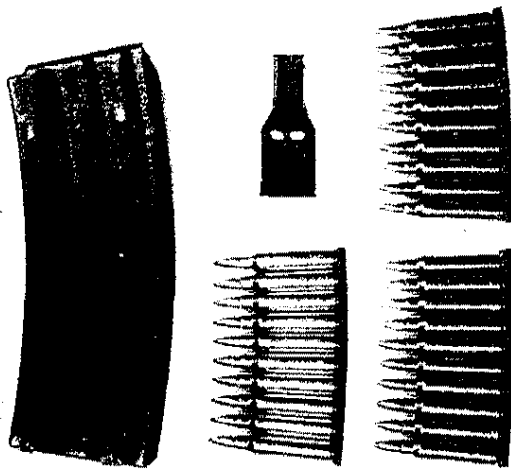
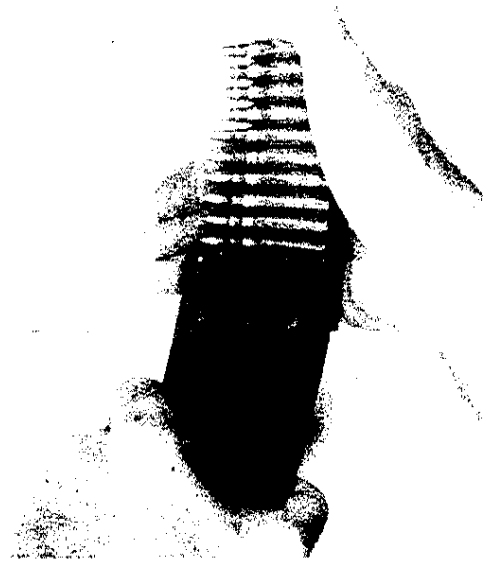
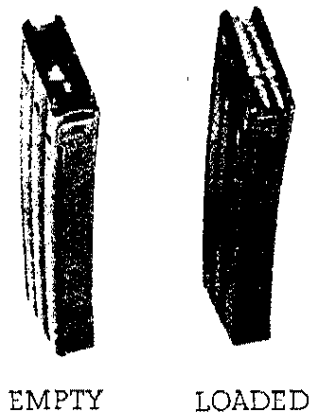

FIGURE 11. 10 ROUND CLIPS AND LOADING ADAPTER
FIGURE 12. LOADING MAGAZINE
FIGURE 13. 30 ROUND MAGAZINES
b. Check all ammunition to be sure it is the proper type and grade and that it is properly loaded into the magazine (figure 13).
a. Loading the magazine. The magazine has a 30-round capacity and may be loaded with any amount up to that capacity. All types of 5.56mm ammunition may be loaded. Figure 11 shows the magazine with three 10 round clips of 5.56mm ammunition and a loading adapter that slips over the end of the magazine to facilitate loading the magazine. Figure 12 illustrates how to load the magazine. Looking down on the magazine follower, it has a raised portion on the right rear of the follower. Cartridges are loaded into the magazine so that the tips of the bullets are forward of the raised portion on the follower. See figure 13.